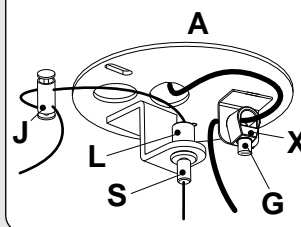

FIG. 8
- Adjust the height of the electronic ballast "W" by loosening the clamp "F" at the same way as the fitting "S" at point n°. 3 (see **fig. 8**).